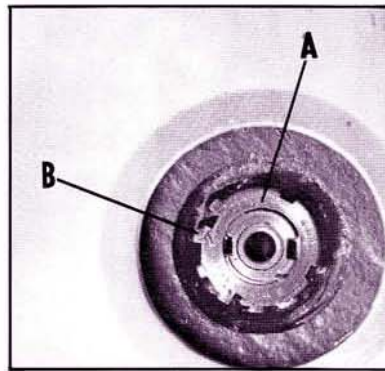

Fig. 7
7. A spanner nut (A) Fig. 7, and a spanner locking washer (B) is located on top of the gear train. Unlock one of the tabs on the locking washer (B) and remove both the nut (A) and locking washer (B) Fig. 7.
19. Replace the spanner locking washer (B) and spanner nut (A) Fig. 7.